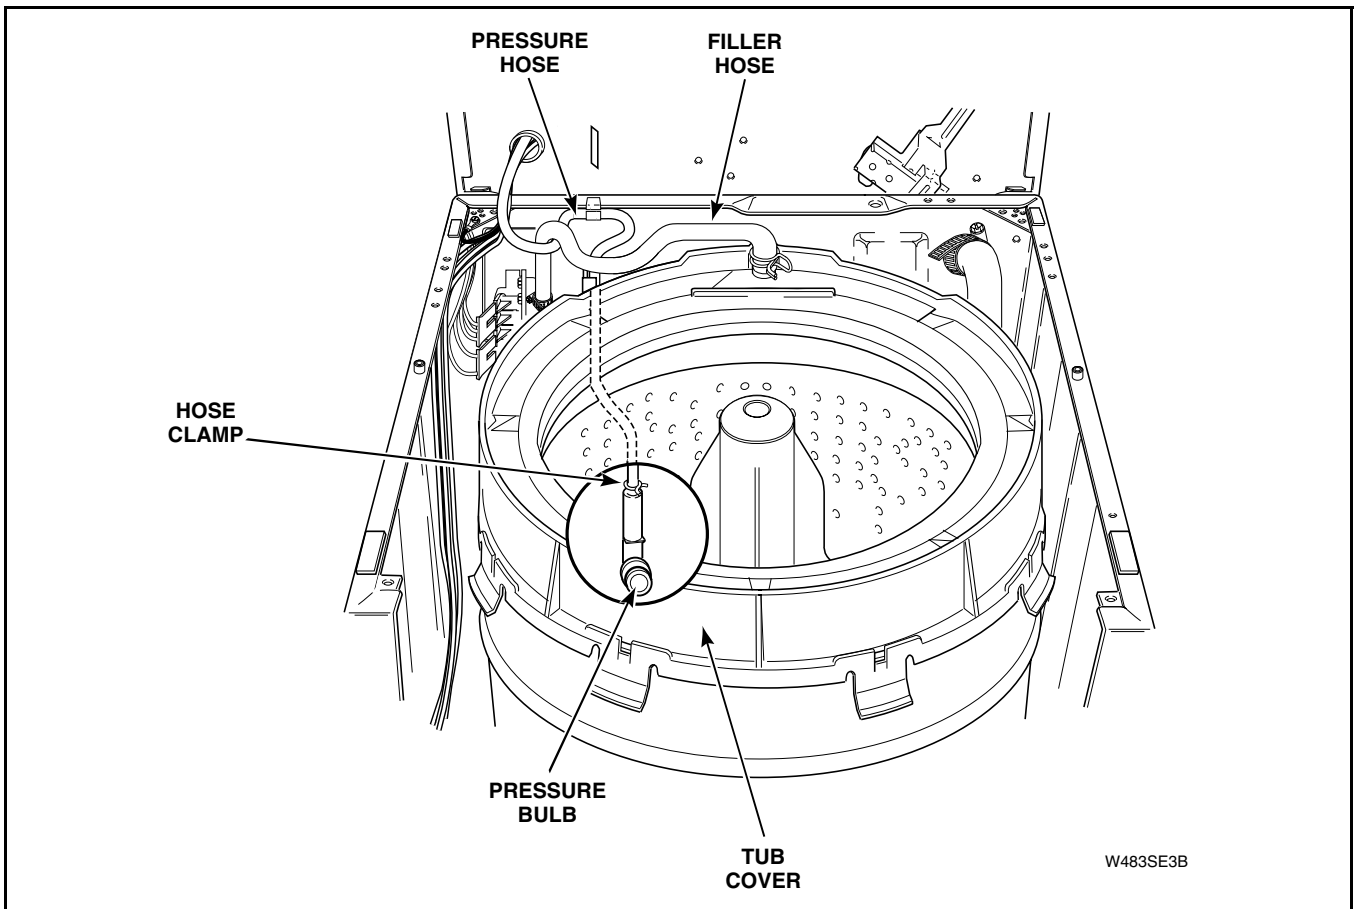

Figure 61
t. Reconnect pressure hose to pressure bulb. Refer to *Figure 61*. Then connect filler hose to tub cover. Refer to *Figure 61*.
NOTE: When reinstalling filler hose, white line on hose must point toward front of washer. Refer to *Figure 61*. Make sure hose is in its natural position (not kinked or twisted). If hose is not, loosen hose clamp and straighten hose.